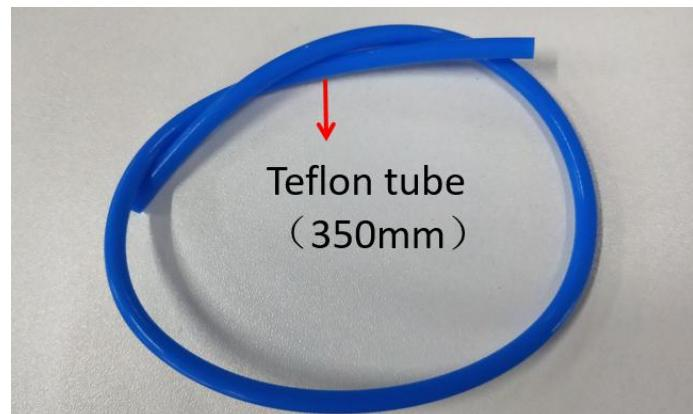

Figure 2.14.1
**Step 2-14-1:** As shown in Figure 2.14.1, prepare the materials and check whether the quantity of materials is correct, prepare for the next installation.